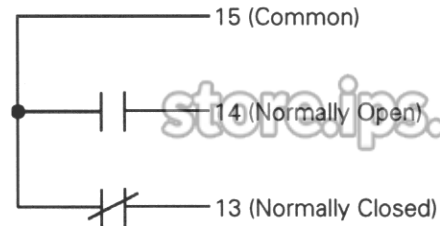

Figure 2. Bell Alarm-Alarm Only connections on the right terminal block. The contacts are shown in the reset state.
The Bell Alarm-Alarm Only provides normally open (NO) and normally closed (NC) outputs available at the terminal block on the right side of the breaker, as illustrated in Figure 2. The outputs change state whenever a breaker trip occurs. This trip can be caused by an overcurrent condition detected by the Trip Unit or can be generated by the Shunt Trip or Undervoltage Release, if installed and if the appropriate DIP switches have been set on the back of the Trip Unit.
6. Connect the control wiring for the Bell Alarm-Alarm Only at the right terminal block, as illustrated in Figure 2.